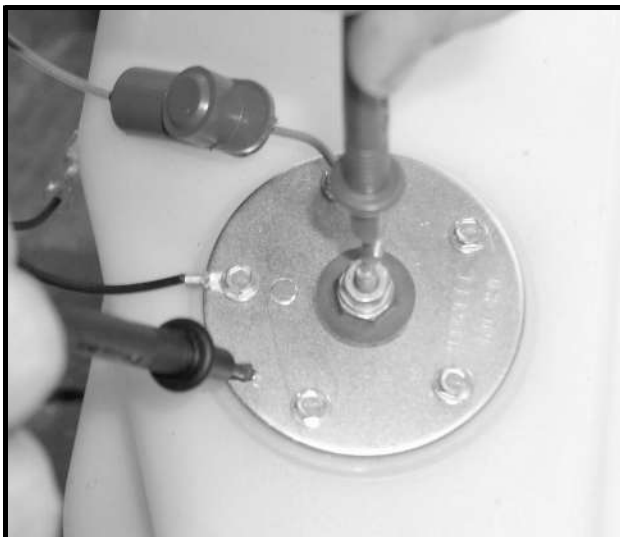

Figure 11b-34 Fuel Level Sending Unit Test
4. With a multimeter set to $2k \frac{3}{4}$ (ohms), place the red (+) probe on the center post of the sending unit. Place the black (-) probe on the ground connection of the sending unit (**Figure 11b-34, Page 11b-39**).